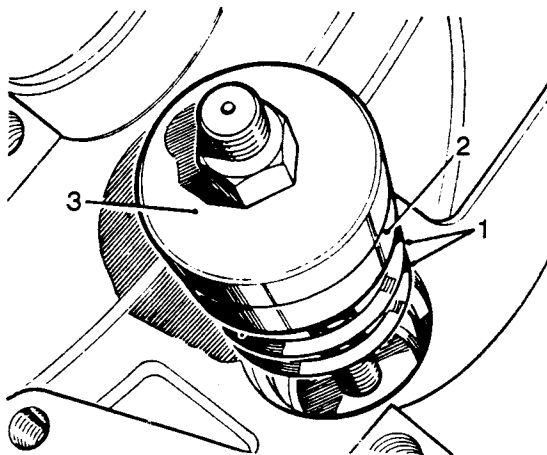

Fig J2.32
- (4) Refer to Fig J2.32. Place the selected shim washers (1) on to the inner bearing cup seating.
- (5) Position the inner bearing cup (2) in the casing.
(6) Position the inner bearing replacer 18G1122G detail 1, on to 18G1122 and secure with the fixing nut (3).
(7) Hold still the centre screw and turn the butterfly lever to draw in the bearing cups.